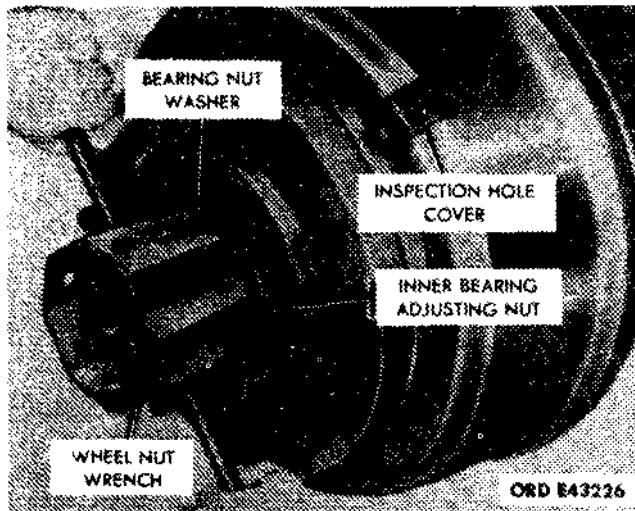

Figure 2-202. Removing outer bearing adjusting nut.
(1) Remove wheel and tire assembly as described in paragraph 2-207b.
(2) Remove 10 drive flange retaining capscrews, and remove flange from hub.
(3) Using special wheel nut wrench (5, fig. 2-4) as shown in figure 2-202, remove outer bearing adjusting nut, bearing nut washer, and inner bearing adjusting nut from the spindle.
(6) Using the wheel nut wrench (5, fig. 2-4), as shown in figure 2-202, remove the outer bearing adjusting nut washer.